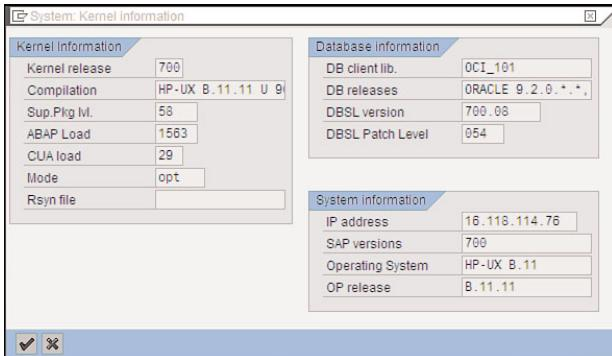

FIGURE 25.9 The System Kernel Information screen lets you verify that the kernel patch installed correctly.
- Click the Other Kernel Info button or press Shift+F5. Verify that the kernel has been upgraded in the System Kernel Information screen, as shown in Figure 25.9.